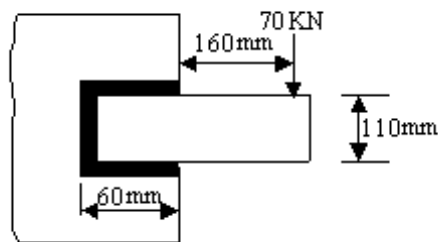

Figure 8
8. A rectangular steel plate is welded as a cantilever to a vertical column and supports a single concentrated load 70 kN as shown in Figure 8. Find the size of weld required if the allowable shear stress is not to exceed 140 MPa. [16]